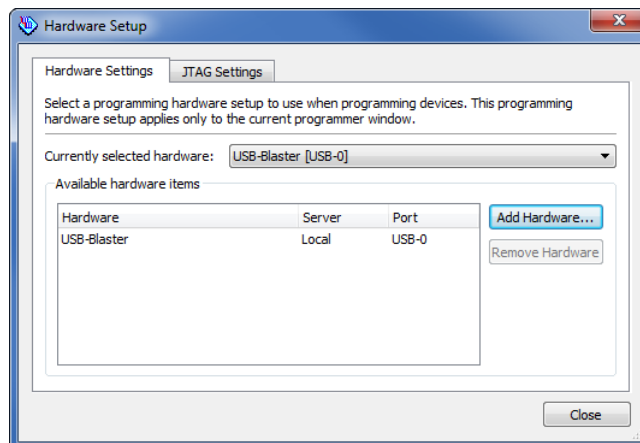

Figure 10. Setting up hardware.
- For SignalTap II to work, we need to properly set up the hardware. First, make sure the DE-series board is plugged in and turned on. In the Hardware section of the SignalTap II window, located in the top right corner, click **Setup**, bringing up the window in Figure 10. Double click USB-Blaster in the Available Hardware Items menu, then click **Close**.